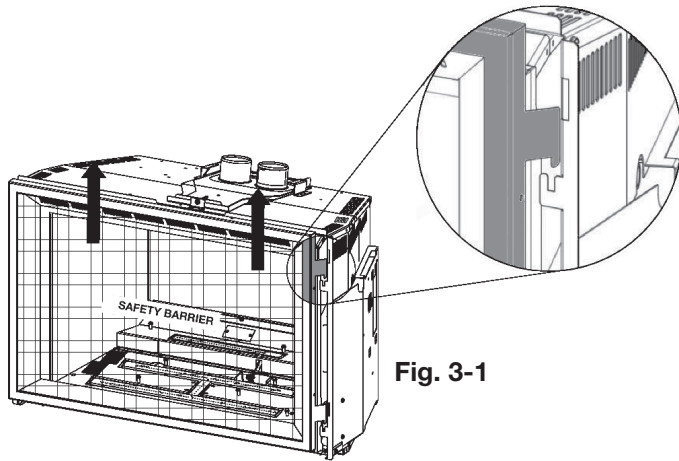

Fig. 3-1
1. Before the glass door can be removed, the safety barrier must be removed. Lift the safety barrier off the 4 side pins and remove from the appliance (**Fig. 3-1 and 3-2**).